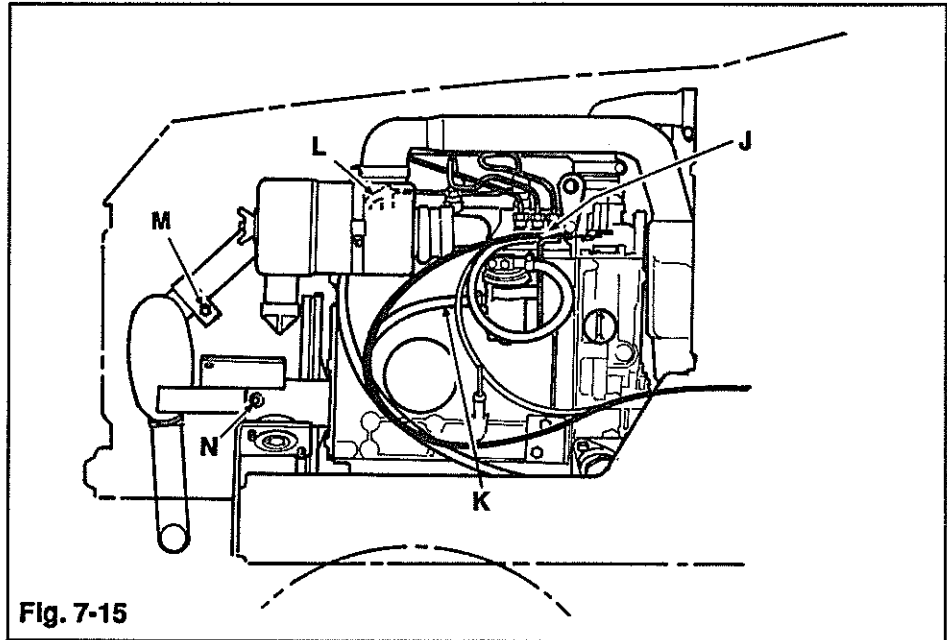

Fig. 7-15
2. Remove four (4) screws securing heat shield to underside of front bumper.
3. Remove four (4) 3/8" capscrews securing the front bumper to the front engine mounts, and two (2) 1/4" screws at rear of grille braces (next to radiator).
6. Disconnect throttle and shut-off control cables (J, Fig. 7-15) from the governor control levers at the engine, and remove cables from mounting bracket.
7. Remove fuel line from tank to filter (K) and leak-off line (L) at the # 3 (forward) injection nozzle. Tightly plug or cap lines to prevent entry of dirt while disconnected.
8. Remove driveshaft hub from the engine crankshaft pulley. Hold the driveshaft with a 3/4" open-end wrench on the rectangular section of the shaft while removing the three (3) metric capscrews in the hub. A 17mm wrench or socket is required for removal.
9. Loosen muffler clamp bolt (M) and remove muffler mounting